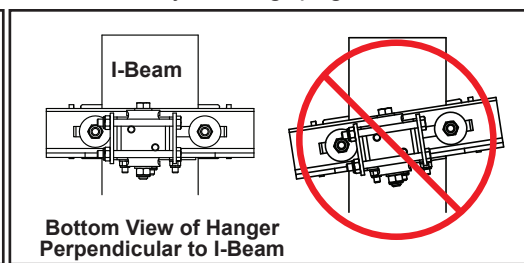

Figure 3-24B
- Step 7. Ensure I-beam bracket is perpendicular to I-beam lower flange. See Figure 3-24B below.